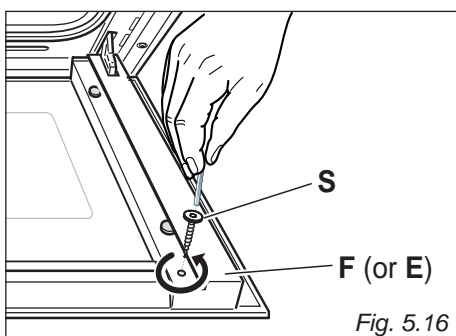

Fig. 5.16
- Unscrew and remove the hex screw "S" fitted on left "E" or right "F" slide guide, above the top edge of the inner glass (fig. 5.16).